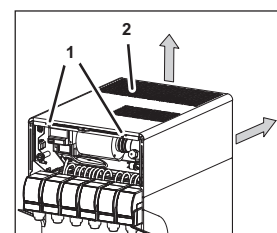

Fig. 38
1. Remove the fastening bolts (Fig. 38/1) of the cover (Fig. 38/2).
2. Slide the cover (Fig. 38/2) backwards.
3. Lift the cover (Fig. 38/2) upwards and away from the unit.